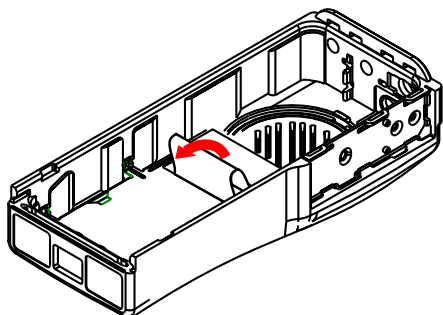

Figure 1-10. Place Front Housing Shield Into Front Housing
5. Place the front housing shield into the front housing using the four slots on the front housing wall as the guide (Figure 1-10).